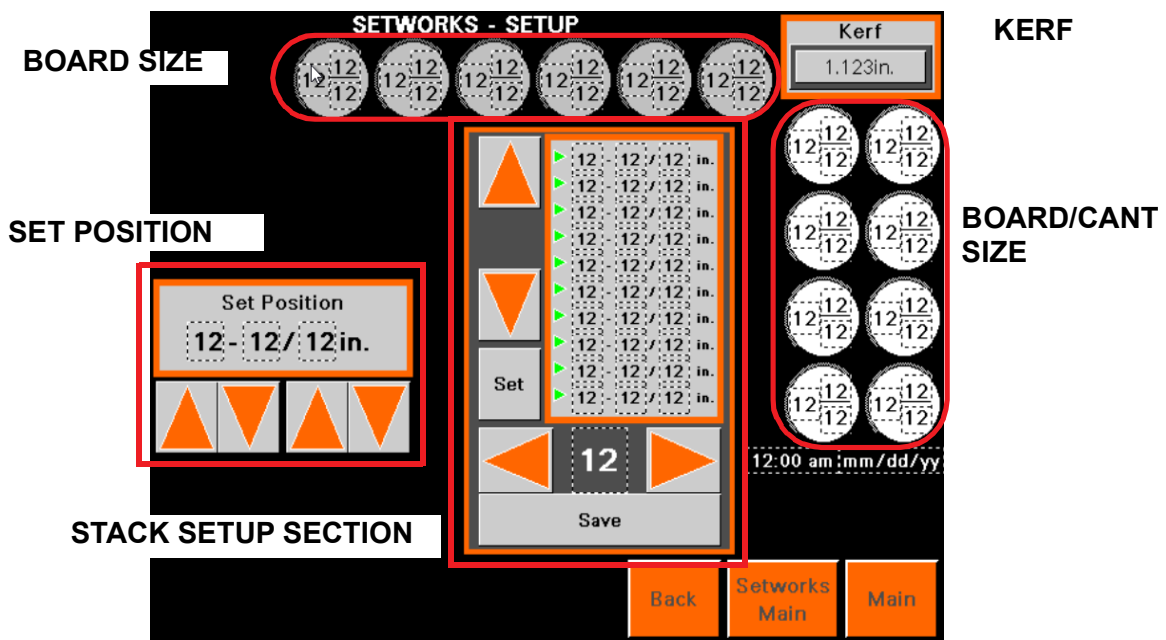

FIG. 4-30
a. Adjust the Set Position to the desired size. See Fig. FIG. 4-30.
- c. Use the Set Position buttons to set the desired size. Reference Fig. 4-30.